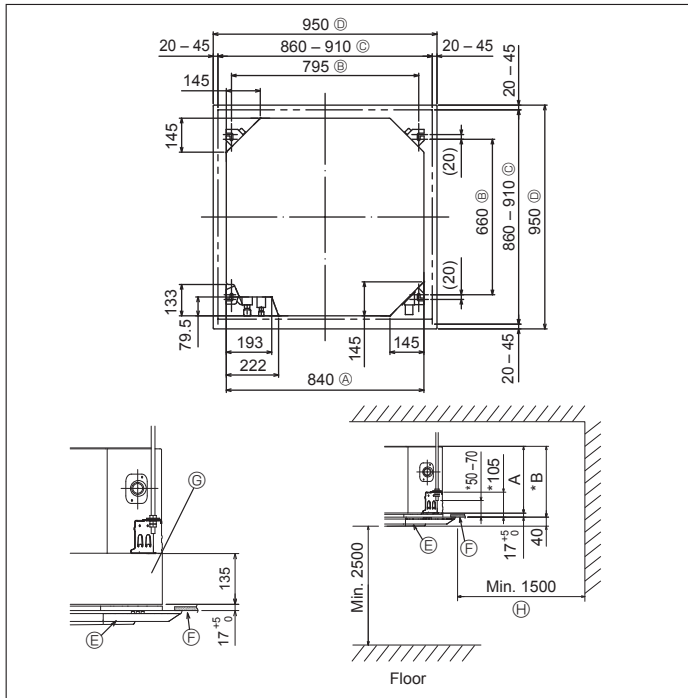

Fig. 3-2
3.2. Ceiling openings and suspension bolt installation locations (Fig. 3-2)
* The dimensions of ceiling opening can be regulated within the range shown in Fig. 3-2; so center the main unit against the opening of ceiling, ensuring that the respective opposite sides on all sides of the clearance between them becomes identical.